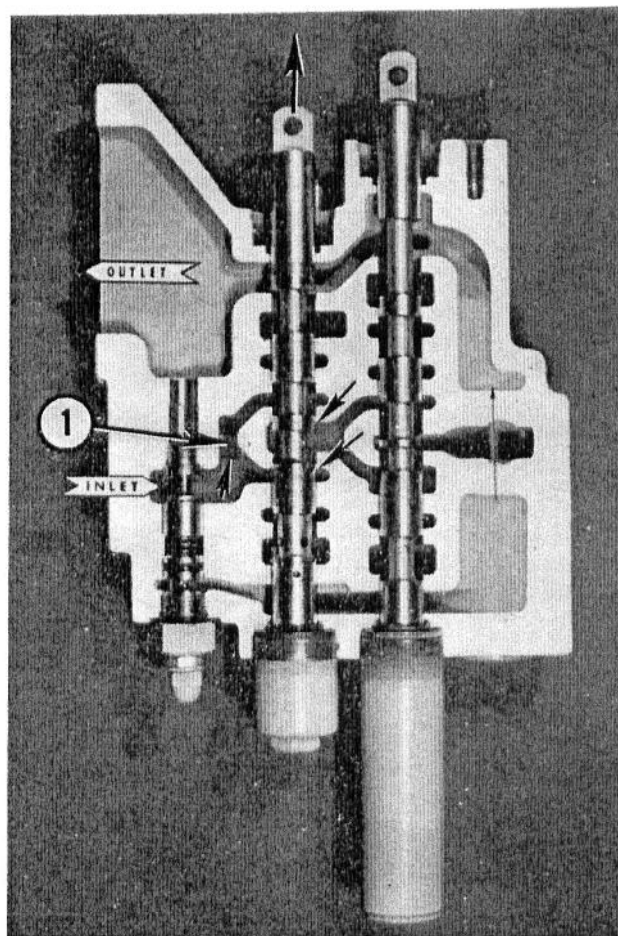
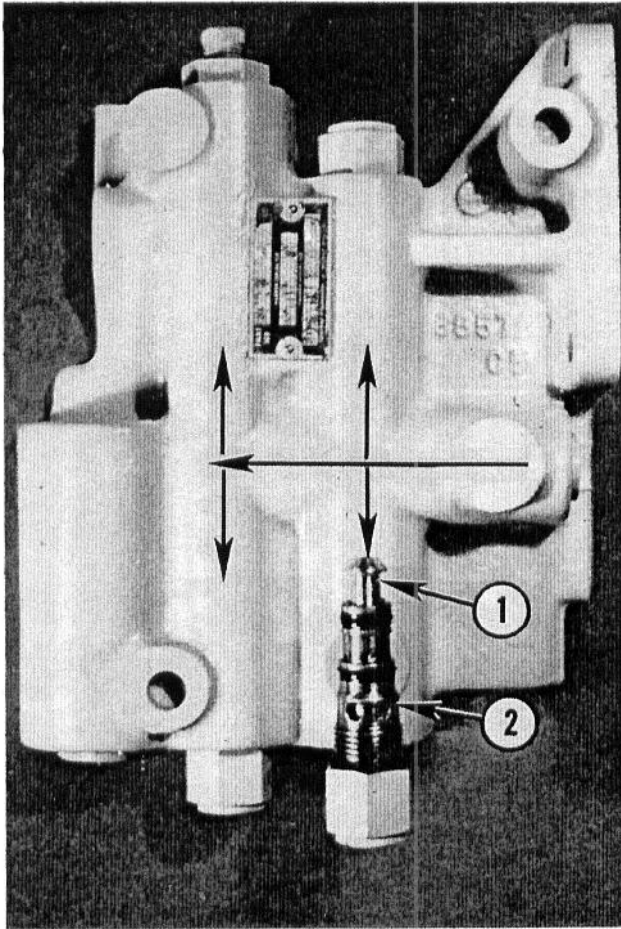
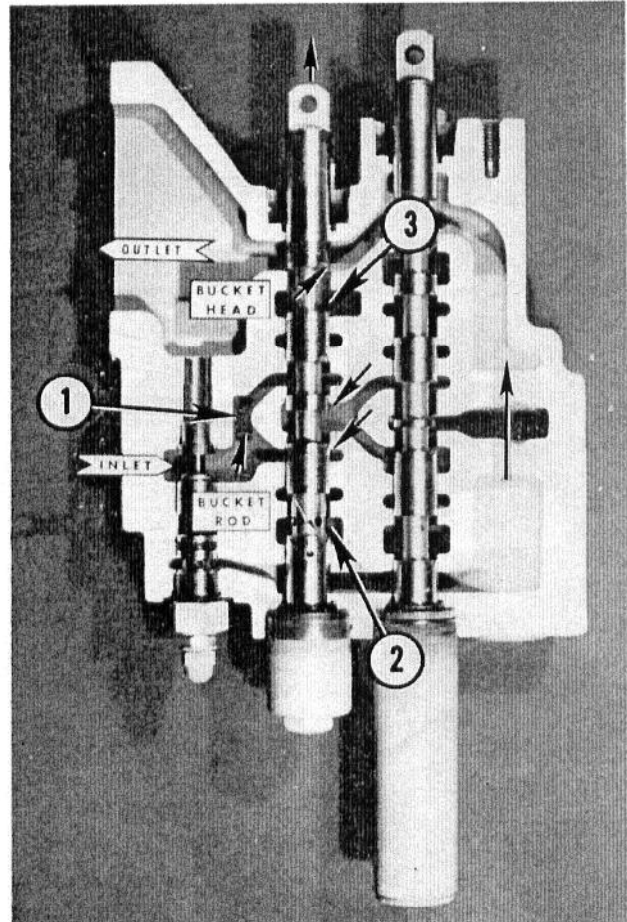

Fig. 11 — Bucket Spool Moved "Out" of Bore
Fig. 12 — Load Check For Bucket Spool In "Curl" Position — Relative Location Shown
Fig. 13 — Flow Through Valve When Bucket Spool Is In "Curl" Position"
c. Bucket spool "out", bucket "curled" (rolled back) rod-end pressurized ... see Figs. 11, 12, 13. Inlet oil past bucket spool center land is blocked ... oil must flow into passage (No. 1, Fig. 11) which is common to the four load checks shown in Fig. 12. (The check poppet sits on a plain cartridge if MF 32A Loader ... or a circuit relief, if a MF 34A or MF 300A Loader.) When pressure against poppet exceeds that in cylinder port ... the poppet moves to allow oil flow to the connected cylinder port (through No. 2, Fig. 13). Oil at head-end of bucket cylinder returns through, No. 3, Fig. 13, past spool